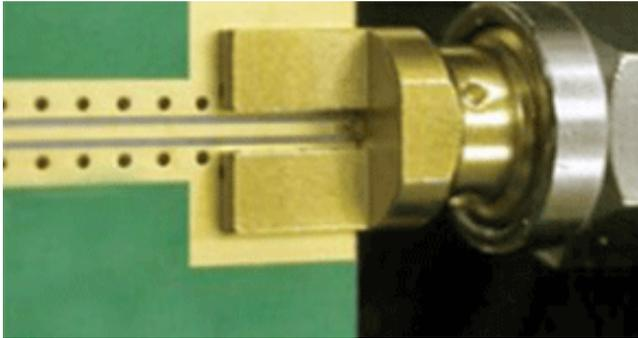

Figure 14: Connector Legs and Contact Pins
b) Position the connector on the circuit board and ensure that the contact pin is aligned with the center of the signal trace as shown in Figure 14. Make sure that the connector legs and contact pin are held flush against the top of the circuit